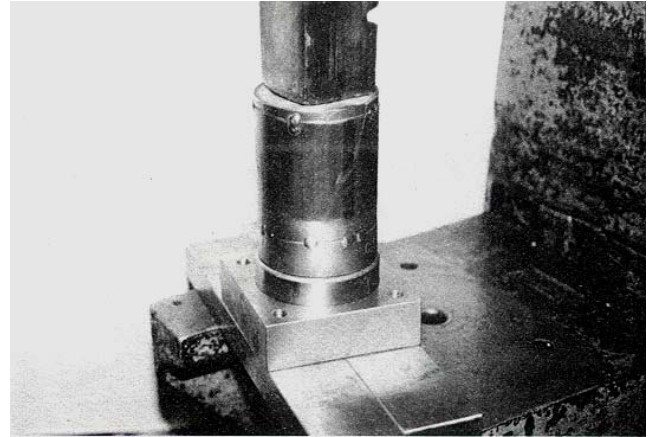

FIGURE 42
9) Clean the outside bore diameter of the replacement bearing. Apply a suitable amount of anaerobic adhesive/sealant to the outside diameter of the bearing. Press the replacement bearing into the bearing housing until its seats itself against the flange. FIGURE 42.